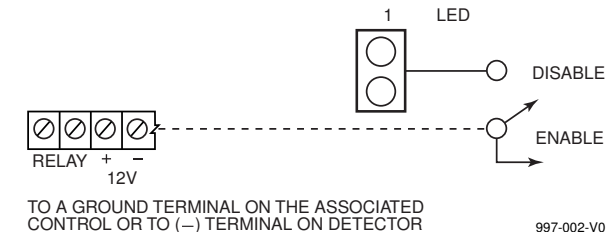
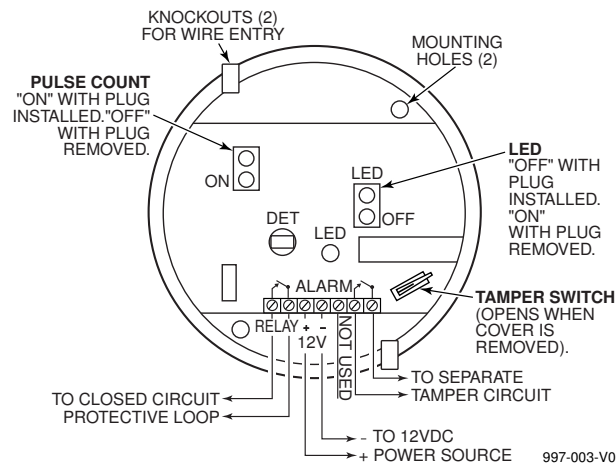

Figure 2. Remote Control of LED
Figure 3. PC Board (in base of PIR)
- Break out one of the two knockouts** that have been provided for wire access (see Figure 3), and pass the wires into the base of the PIR. *Caution: Be certain that wires do not obstruct the detector's field of view.*
- Connect all wires** to the screw terminals (see Figure 3 for wiring details). Seal all openings in the base with foam or RTV (not supplied) to prevent drafts or insects from entering the unit.
The detector is shipped with the Alarm LED disabled (LED enable/disable plug in place). The LED should be enabled (for a walk-test) by *removing* the LED enable/disable plug (see Figure 3 for location). To prevent the loss of the plug, we suggest you install it on one pin when the plug is not in use. When the walk-test is completed, the LED may be disabled, if desired (plug in place). The LED may also be controlled from a remote location, as follows: Remove the LED enable/disable plug. Connect a switched line to the upper pin (#1) of the two LED pins that can be grounded or opened (see Figure 2). Grounding pin #1 will disable the LED. Disconnecting it from ground will enable the LED.
This PIR is equipped with a cover tamper switch. With cover on, the switch is closed; when cover is removed, the switch opens. The tamper terminals (see Figure 3) should be connected to the control panel's tamper loop.
Each detector includes Pulse Count circuitry that is designed to provide stability in adverse environments to minimize false alarms. Two-event pulse count is provided by positioning the jumper plug across the pulse count pins (see Figure 3 for location). To select one-event pulse count (instant response), remove the jumper plug. When programmed for 2-event pulse count, the detector will signal an alarm within 3 or 4 steps, since the processing logic requires more complex motion than just a momentary event. When the detector verifies an intrusion, the LED will light and the alarm relay contacts will transfer, both conditions lasting for approximately 1 to 3 seconds (dependent upon signal strength).